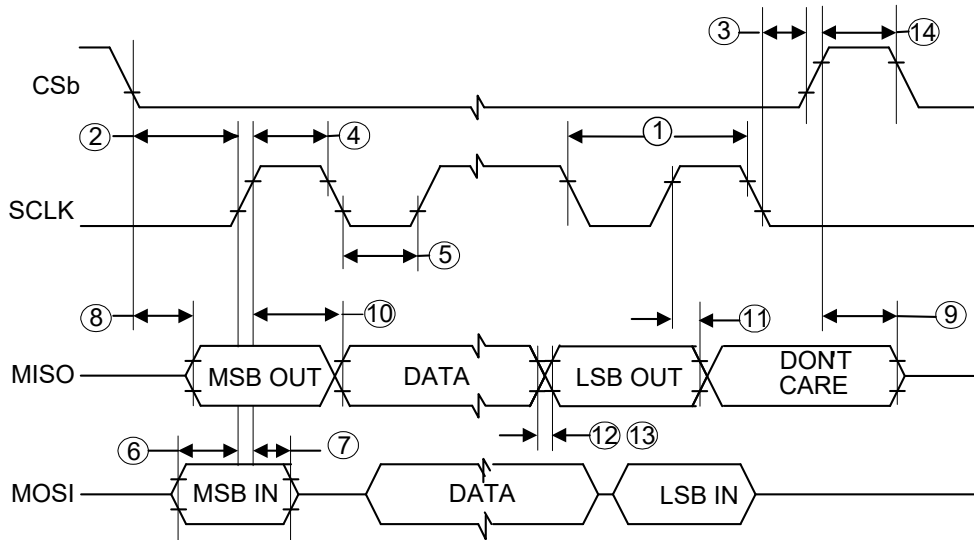

Figure 7. SPI timing diagram
| $t_{\text{SCK}}$                     | SCLK Period• <a href="#">Figure 7 - 1</a>                                                                                 | 160         | —         | —           | ns                  |       |
| $t_{\text{LEAD}}$                    | Enable Lead Time• <a href="#">Figure 7 - 2</a>                                                                            | 140         | —         | —           | ns                  |       |
| $t_{\text{LAG}}$                     | Enable Lag Time• <a href="#">Figure 7 - 3</a>                                                                             | 50          | —         | —           | ns                  |       |
| $t_{\text{SCKHS}}$                   | SCLK High Time• <a href="#">Figure 7 - 4</a>                                                                              | 56          | —         | —           | ns                  |       |
| $t_{SCKLS}$                      | SCLK Low Time• <a href="#">Figure 7 - 5</a>                           | 56   | —    | —    | ns            |       |
| $t_{SUS}$                        | MOSI Input Setup Time• <a href="#">Figure 7 - 6</a>                   | 16   | —    | —    | ns            |       |
| $t_{HS}$                         | MOSI Input Hold Time• <a href="#">Figure 7 - 7</a>                    | 20   | —    | —    | ns            |       |
| $t_A$                            | MISO Access Time• <a href="#">Figure 7 - 8</a>                        | —    | —    | 116  | ns            |       |
| $t_{DIS}$                        | MISO Disable Time (25)• <a href="#">Figure 7 - 9</a>       | —    | —    | 100  | ns            |       |
| $t_{VS}$                         | MISO Output Valid Time• <a href="#">Figure 7 - 10</a>                 | —    | —    | 116  | ns            |       |
| $t_{HO}$                         | MISO Output Hold Time (No cap on MISO)• <a href="#">Figure 7 - 11</a> | 20   | —    | —    | ns            |       |
| $t_{RO}$                         | Rise Time• <a href="#">Figure 7 - 12</a>                              | —    | —    | 30   | ns            | (25)  |
| $t_{FO}$                         | Fall Time• <a href="#">Figure 7 - 13</a>                              | —    | —    | 30   | ns            | (25)  |
| $t_{CSN}$                        | CS_B Negated Time• <a href="#">Figure 7 - 14</a>                      | 500  | —    | —    | ns            |       |